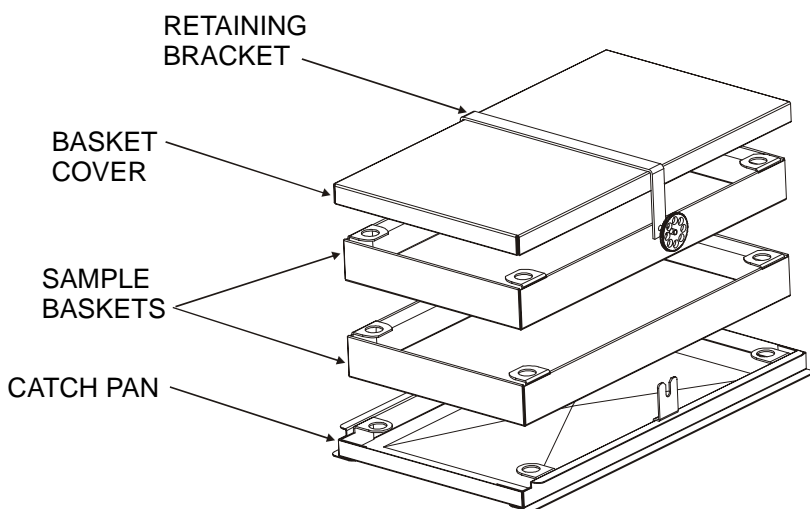

Figure 4-3. Sample Basket Assembly
8. Place the basket cover over the top sample basket as shown in Figure 4-3. Secure the sample baskets and cover to the catch pan with the retaining bracket. Ensure that the knurled finger nuts on the retaining bracket fully engage the tabs in the catch pan, then tighten the nuts. If the retaining bracket is not properly secured, the basket cover may deform during the burn cycle and touch the top of the chamber, causing erroneous results.